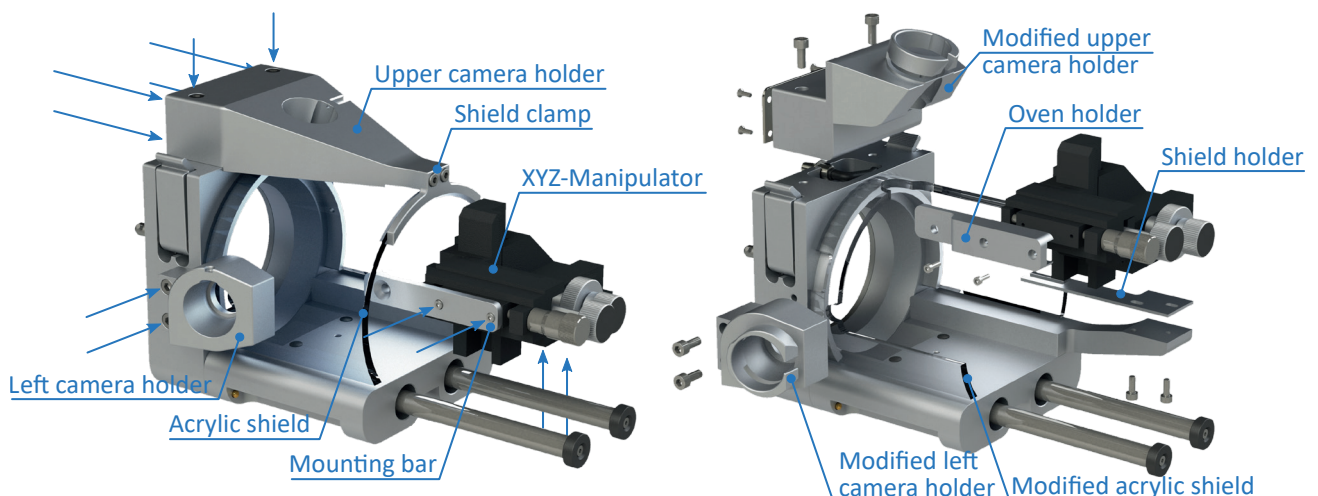

Fig. 5: Installation of the ES072 mounting kit
- Remove the shield clamp, the upper and left camera holder, the acrylic shield, the XYZ-manipulator and the attached mounting bar by loosening the screws marked in Fig. 5.